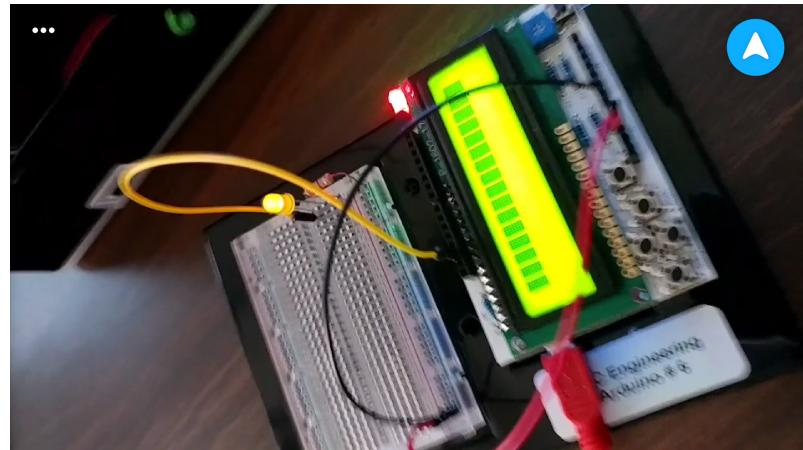

Figure 4. Circuit for LED lights
2. Use a resistor connected to the negative prototype board to the column and connect jumper wires to the redboard to the positive resistor shown in figure 4 above.